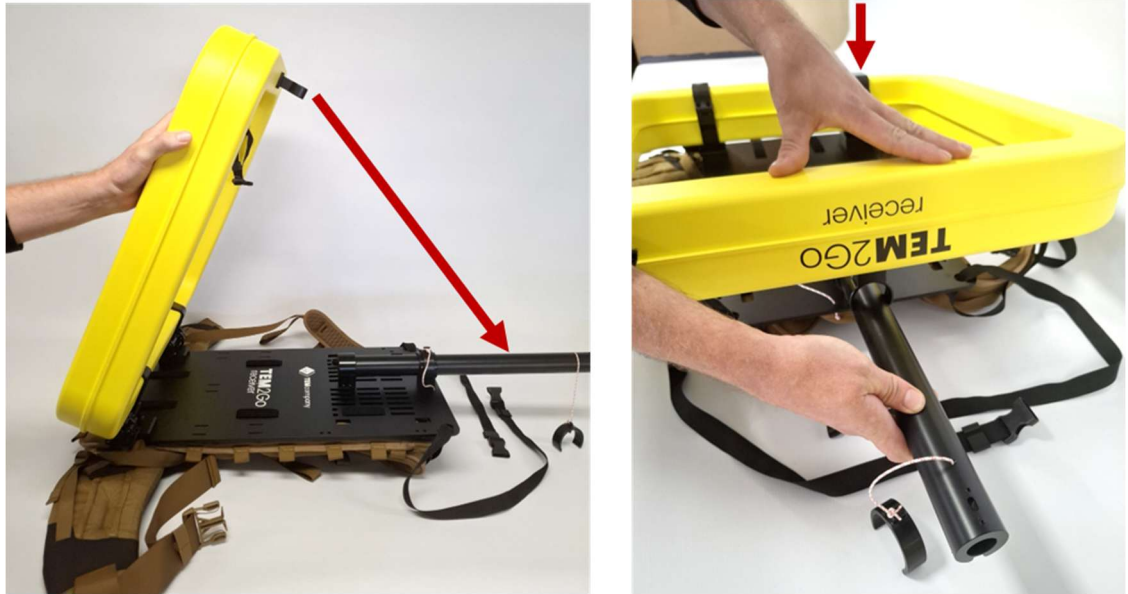

Figure 13: How to secure the Rx coil to the pole on the receiver backpack
5. Secure the coil to the pole by clipping it into place (Figure 13).